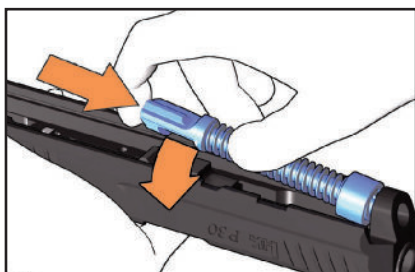

Figure 26 — Reassembling the recoil spring onto the barrel and side
4. Push the recoil spring forward into position, compressing the recoil spring, then pivot the back of the recoil spring guide rod onto the stepped mounting surface located on the front of the barrel camming lug (see Figure 26). Ensure the front of the recoil spring is facing forward in the slide.